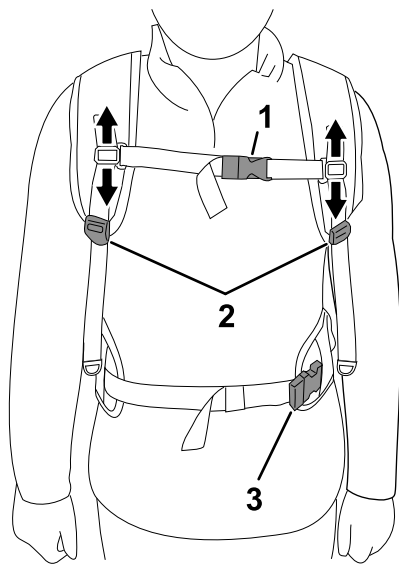

Figure 9
1. Bend at the waist and put on the shoulder straps, so the backpack rests comfortably on your back, and connect and tighten the hip belt buckle so it stays in position (Figure 8 and Figure 9).